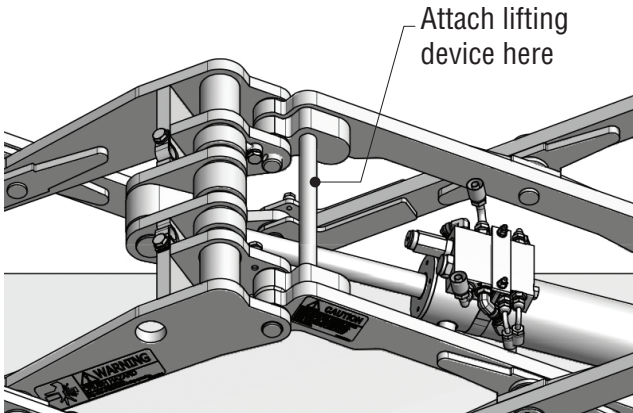

Figure 4-4, Lifting Point
8. Support the mechanism assembly through the upper bar on the inner secondary arm, near its center of gravity. (Figure 4-4)